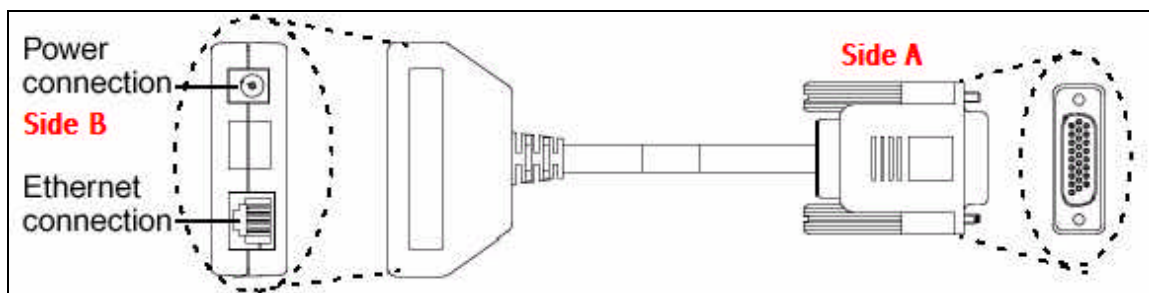

Figure 4. Trimble Multiport Adapter
switch. Use a crossover cable when connecting directly to a computer Ethernet card. Multi-port adapter cable details are as illustrated in Figure 4.
Primary Power/Ethernet port is used to provide power and Ethernet access to GPS receiver. Connect the Side A of the Trimble Multi-port adapter seen in Figure 4 to this port.
- h. After the GPS receiver completes initialization, connect the Ethernet cable that came with your GPS receiver to the **Ethernet Connection** port on side B of the multiport connector (as seen in Figure 4 and Figure 6). Connect the other end of the Ethernet cable to a hub or switch in your network.